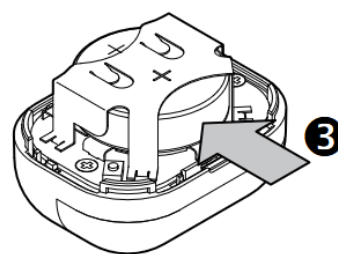

Fig.2
2. Extract the exhausted battery by pushing it out of its holder, as shown in Fig. 2.